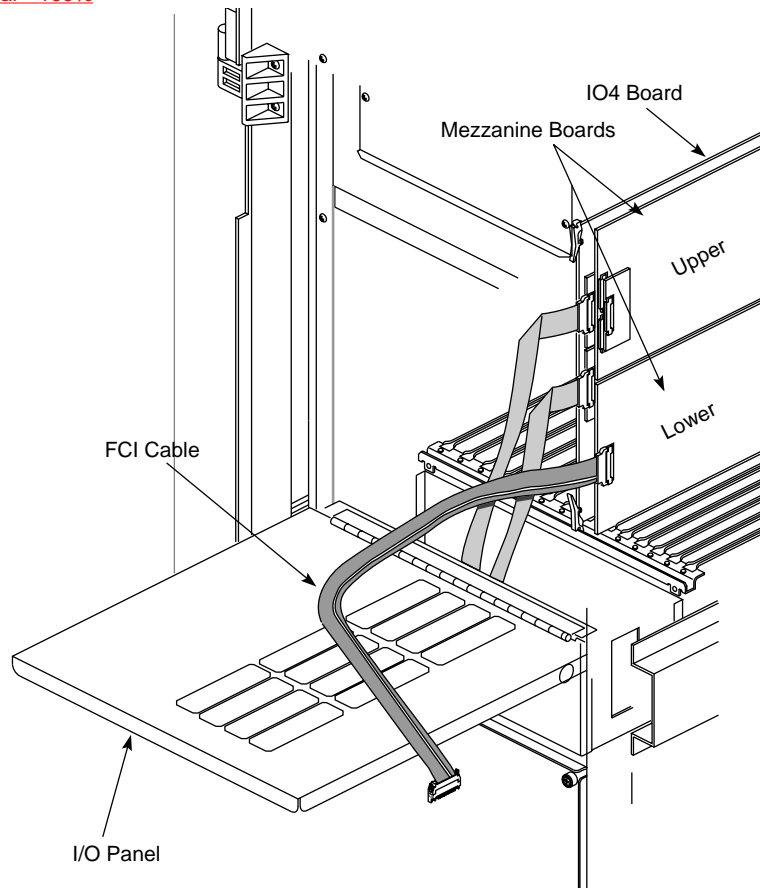

Figure 2-12 Installed IO4 Board
9. Reinstall the IO4 board into the chassis, as illustrated in Figure 2-12. Push the board firmly into the backplane. If the board has a VCAM board, the VCAM board must also connect to the backplane.